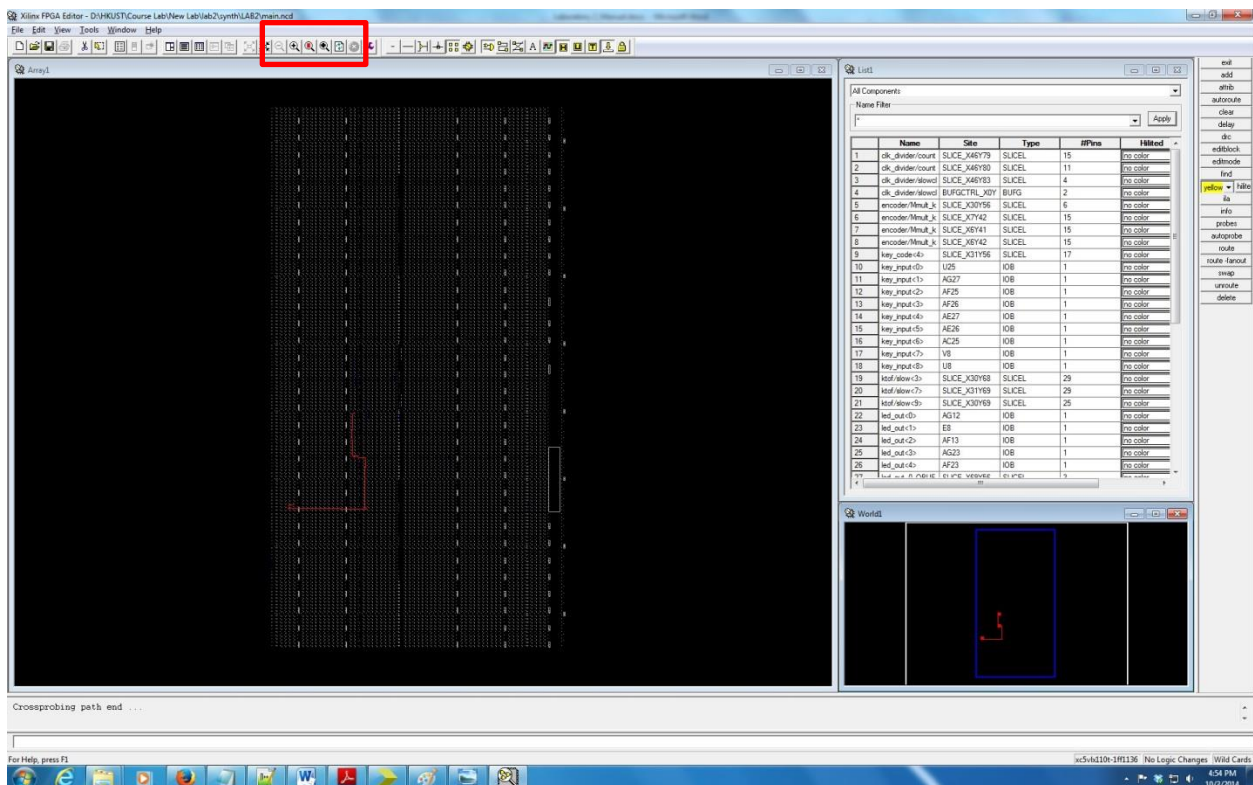

Fig.10: Seeing a timing path in FPGA editor
12. Go to timing report, and select **Show in FPGA Editor** in Fig. 8. You will see something similar to Fig. 10 which shows the selected path (in red) on the actual FPGA. Play with the zoom buttons in the tool bar at the top to see more details.